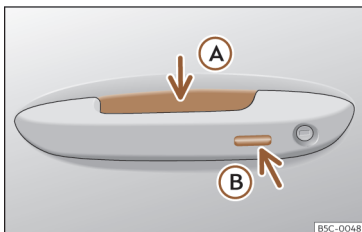

Fig. 78 Door handle: sensor surfaces
>>> Fig. 78
»» **Fig. 78 A** (arrow) of the handle and the vehicle unlocks.
»» **Fig. 78 B** (arrow) on one of the front door handles. The door that is used must be closed.
- Touch (*once*) the sensor surface»» **Fig. 78 B** (arrow) on one of the front door handles. The vehicle locks with the “Safe” security system»» page 101. The door that is used must be closed.
- Touch (*twice*) the sensor surface»» **Fig. 78 B** (arrow) of one of the front door handles to lock the vehicle without activating the “Safelock” security system»» page 101.
- Push the central locking button  on the remote control and touch the locking sensor surface of the driver door handle >>> **Fig. 78 B** within the following 5 seconds. Do not grasp the door handle; otherwise the vehicle will not unlock. Deactivation is also possible if the vehicle is locked through the driver's door lock.
To close all the electric windows and the sunroof using the **comfort function**, keep a finger for a few seconds on the locking sensor surface >>> **Fig. 78 B** (arrow) of the door handle until the windows and roof have closed.
The sensor surfaces on the door handles could engage if hit with a water jet or high pressure steam if there is a valid vehicle key in the proximity. If at least one of the electric windows is open and the sensor surface >>> **Fig. 78 B** (arrow) on one of the handles is activated continuously, all windows will close.
- **OR:** touch the sensor surface on the outside of the door handle *twice*>>> Fig. 78